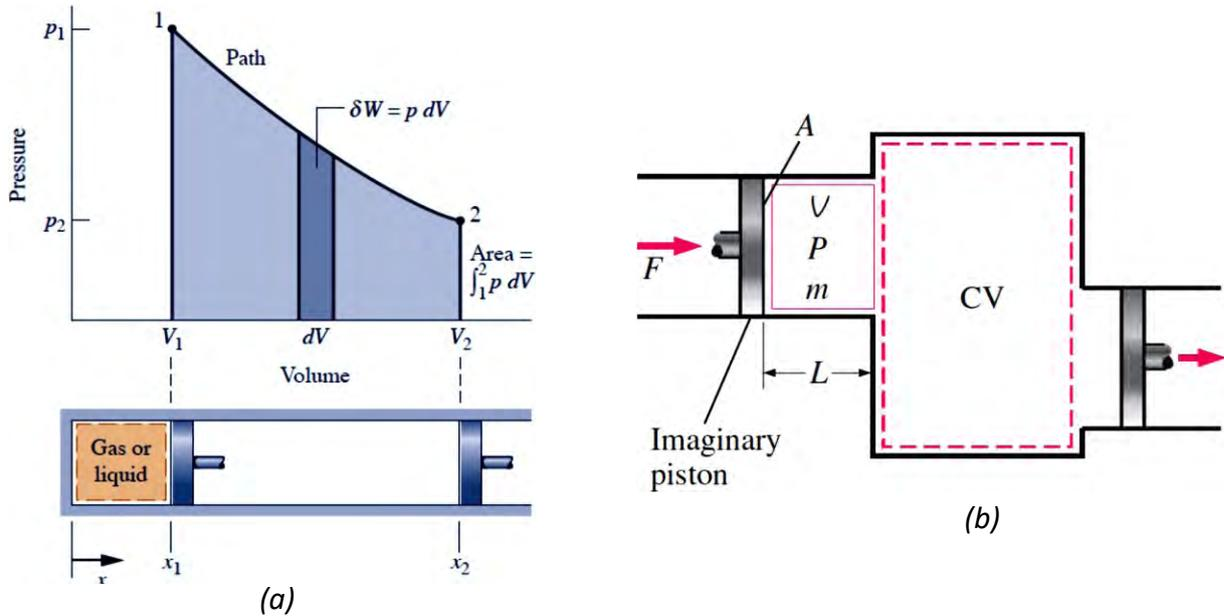

Fig. 1.11 (a) Displacement work and (b) Flow work
- Consider the gas enclosed in a frictionless piston cylinder arrangement as shown in Fig. 1.11. Let the initial gas pressure p_1 and volume V_1 . The piston is the only boundary which moves due to gas pressure. Let the piston moves out to a new final position 2, specified by pressure p_2 and volume V_2 . At any intermediate point in the travel of the piston, let the pressure be p , volume V and piston cross sectional area is A . When the piston moves through and infinitesimal distance ds in a quasi-equilibrium manner, the force applied on piston is,
- This work transfer during a process is equal to the area under the curve on a $p - V$ diagram as shown in Fig. 1.11 (a).
- Consider a fluid element of volume V , entering the control volume through a cross-sectional area A as shown in Fig. 1.11 (b).